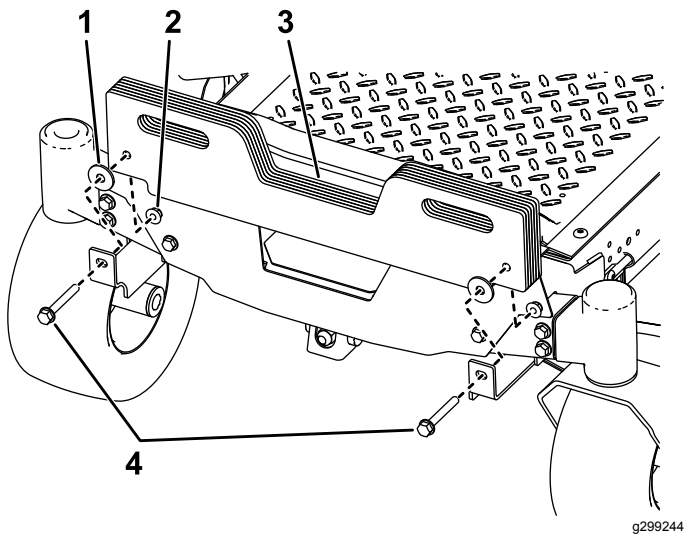

Figure 4
2. Install the suitcase weights to the weight mounting brackets using 2 bolts (5/8 x 2-3/4 inches), 2 washers, and 2 locknuts (3/8 inch) as shown in Figure 4.